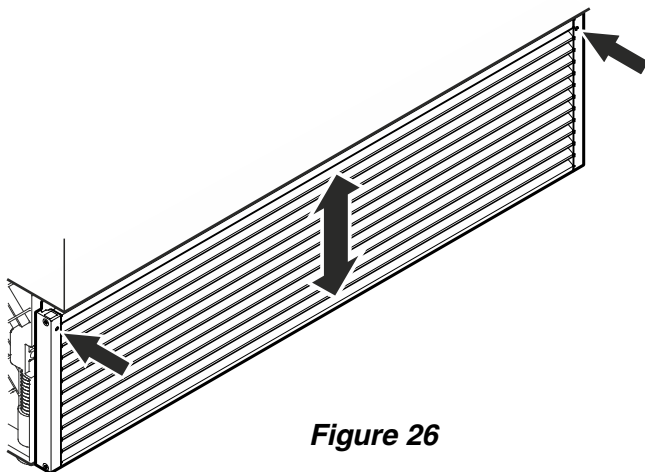

Figure 26
8. Adjust the height of the ventilation grille (**Figure 26**).